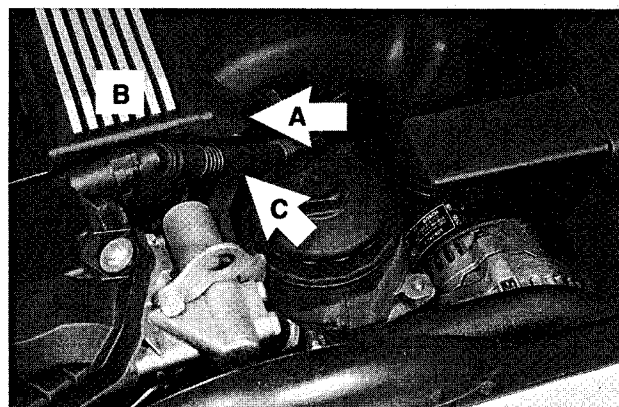

Fig. 38. M52 engine: Engine coolant temperature (ECT) sensor (A) is located beneath top engine cover (B) and crankcase vent hose (C).
2. Unclip crankcase venting hose from cylinder head cover. See Fig. 38.